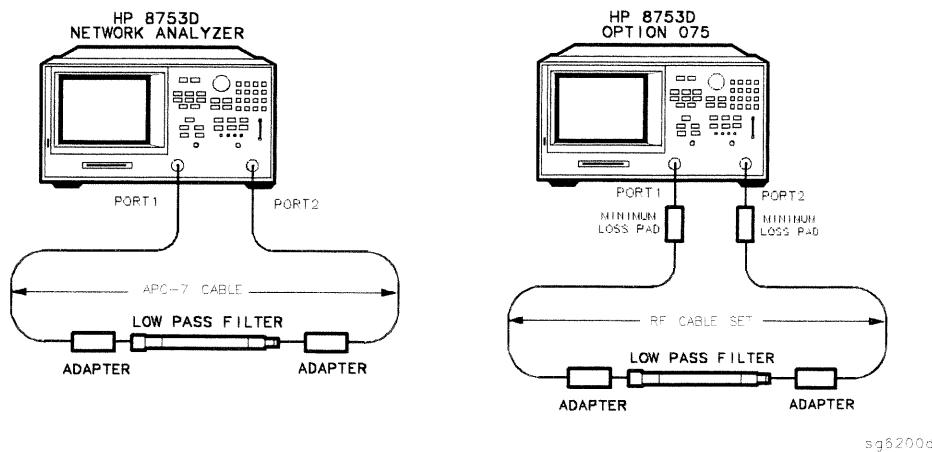

Figure 3-11.
1. Connect the equipment shown in Figure 3-11.